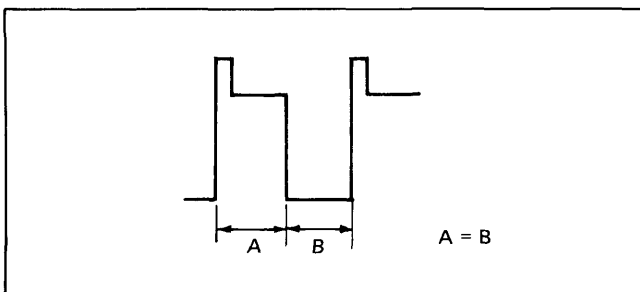

Fig. 24
- 5) Adjust Pulse Duty Adj. VR (R5163) to achieve waveform of **TPD9** as shown in Fig. 24.